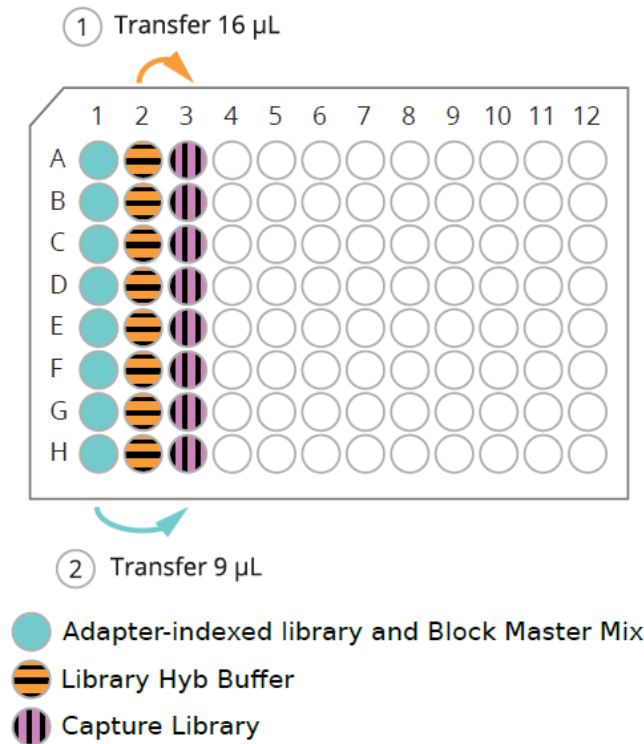

Figure 7. Transfer 16 µl from Column 2 to Column 3 and 9 µl from Column 1 to Column 3.
- f. Quickly transfer **16 µl** of the **Library Hyb Buffer** (column 2) into the Capture Library Mix (column 3) and mix well by pipetting up and down 2-3 times (Figure 7. ①). Avoid generating air bubbles.
- g. Transfer **9 µl** (entire amount) of **Block Mix with DNA library** (column 1) into column 3 containing the remaining reagents and mix well by pipetting up and down 5-10 times (Figure 7. ②). Avoid generating air bubbles.